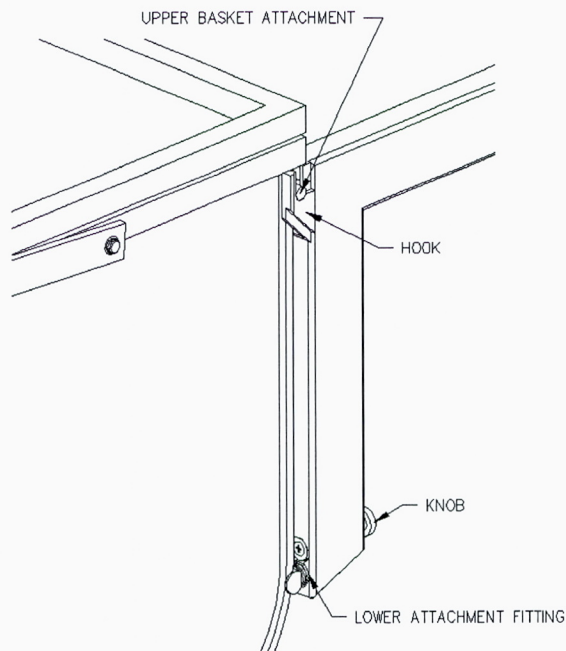

Figure 2 – Basket Attachment
1. Installation - Refer to Figure 2.
2. Removal - Refer to Figure 2.